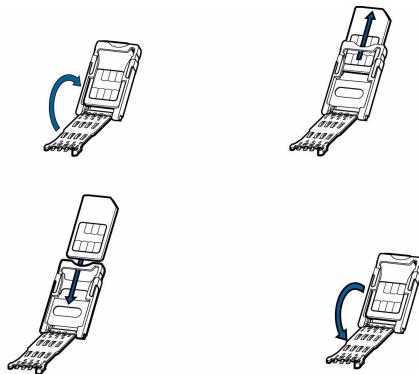

Figure 14 Insert MSAM Card into Cardholder
- b Open the cardholder by pivoting the cover on its hinge away from the connector base (Figure 14).
The cardholder has a set of contacts and a notch on one corner to ensure the MSAM card is positioned correctly when the cover is closed. The MSAM card has a notch on one corner to ensure it is correctly positioned in the cardholder. Before inserting the MSAM card, position it as shown in Figure 14.
- 6 Close the cover (Figure 14).